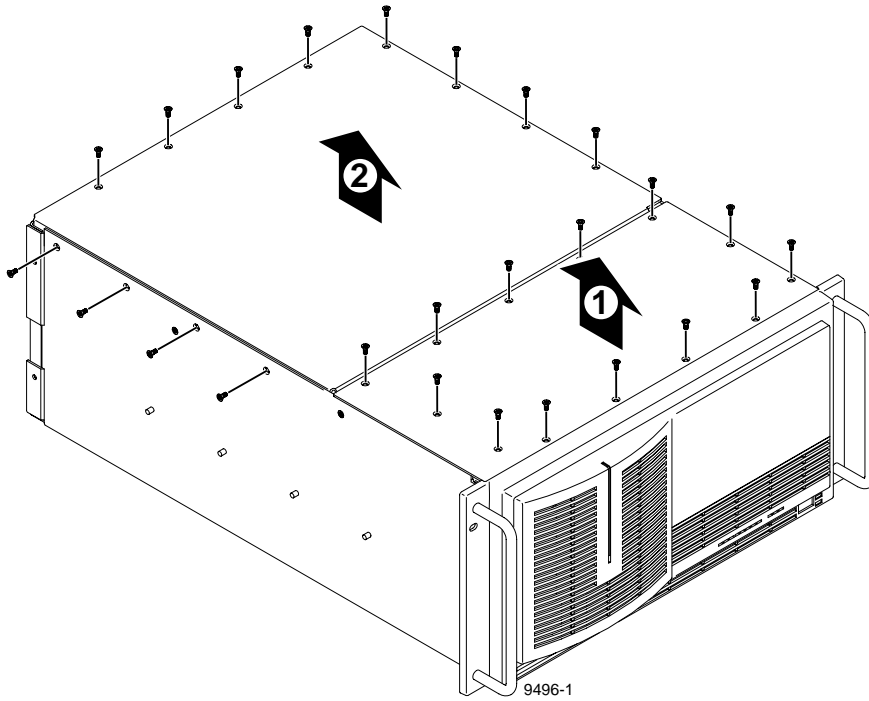

Figure 6. Removing the top covers
2. Use the Torx tool with the T10 tip to remove the top screws from the front chassis cover (❶ in Figure 6).
3. Use the Torx tool with the T10 tip to remove the rear chassis cover (❷ in Figure 6) which covers the circuit boards.